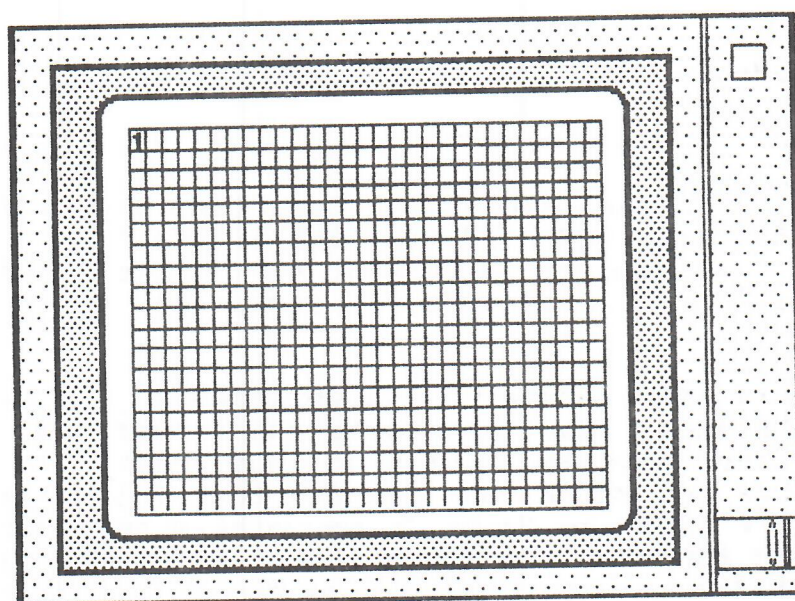

FIGURE 2
5. Select the Video Tests (V) from the menu, then press the spacebar. You will now see a high resolution pattern on the screen. Numbers 1 and 2 should be alternating in the upper left-hand corner of the screen. (Figure 2.)